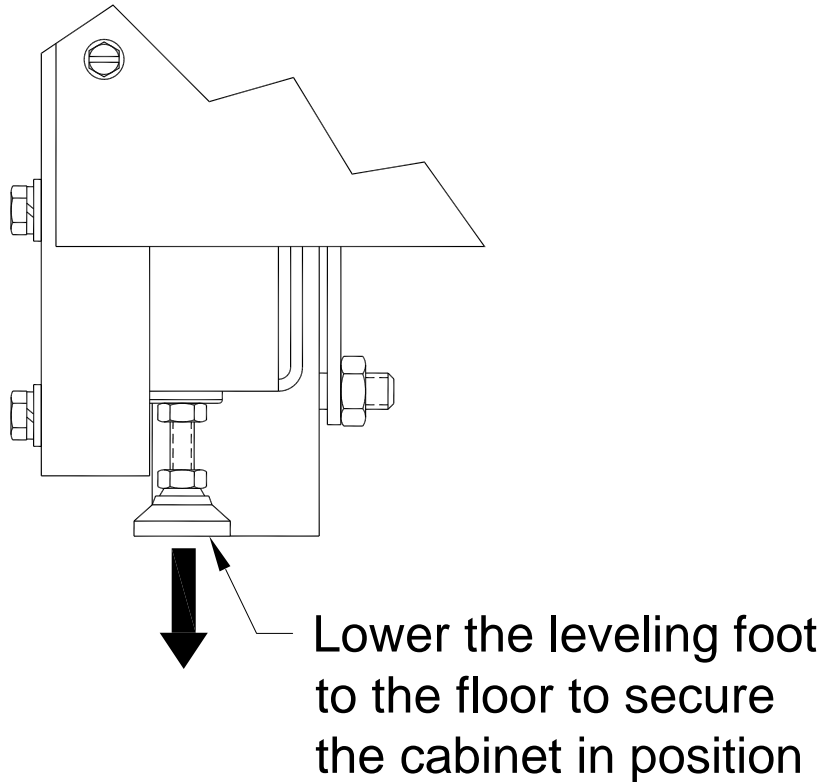
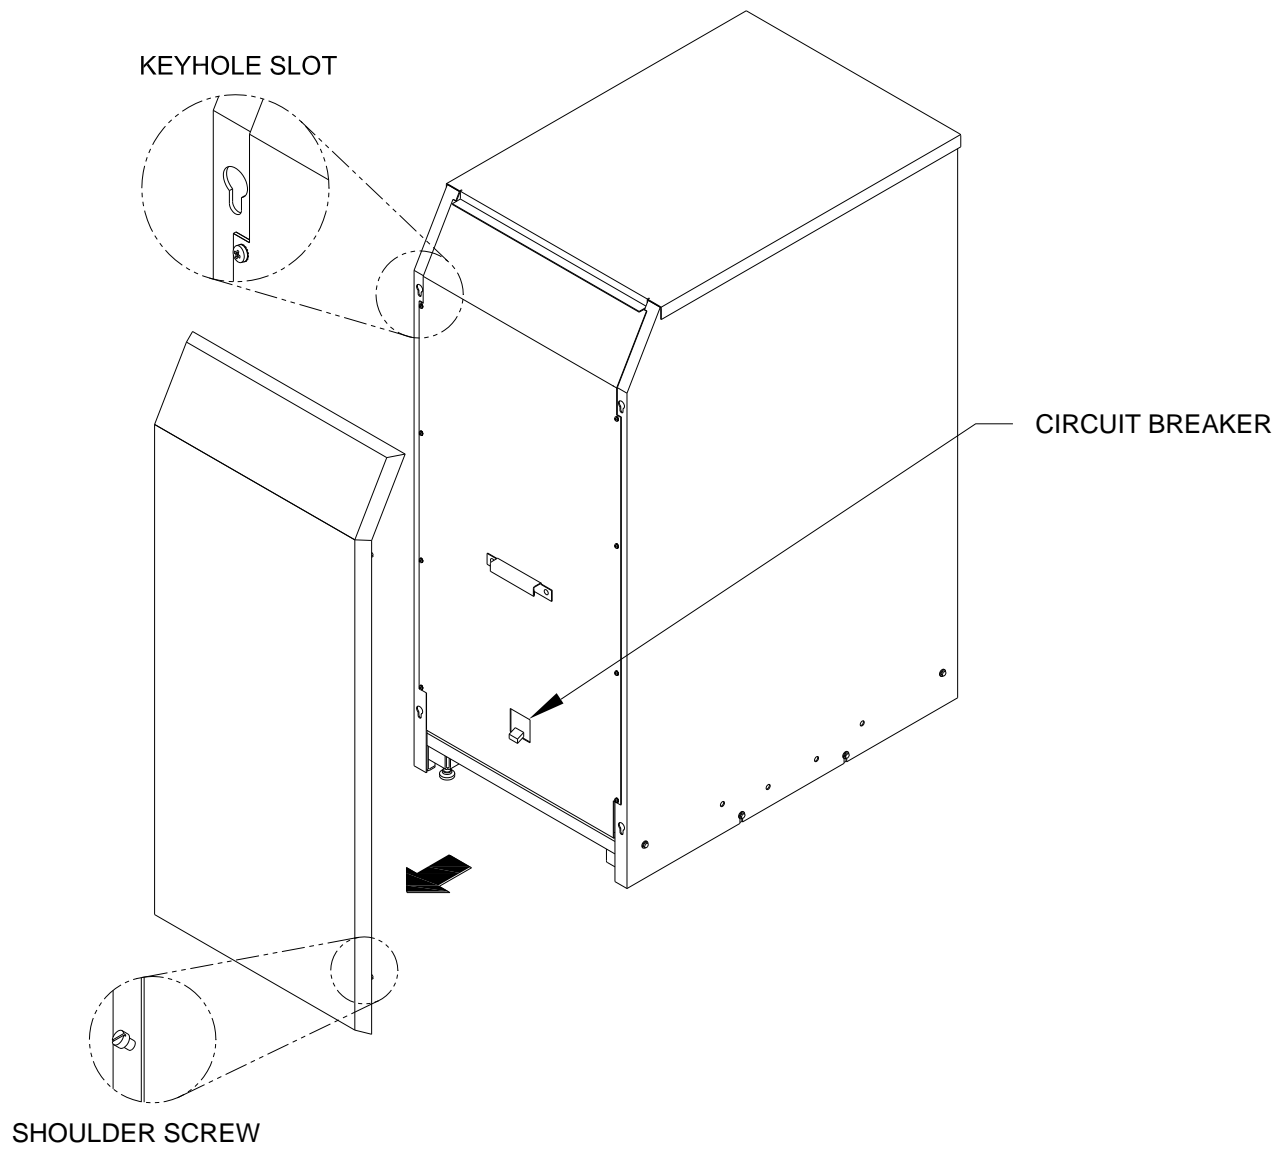

Figure 4 - Leveling foot being adjusted down to the floor
Figure 5 - Removing the Cabinet Front Panel
Once the cabinet has been rolled into position, remove the front panel to access the front leveling feet by lifting the panel up and off the cabinet (see figure 5). Adjust the leveling feet as shown in figure 4.
4. Removing and replacing the front panel, see figure 5: